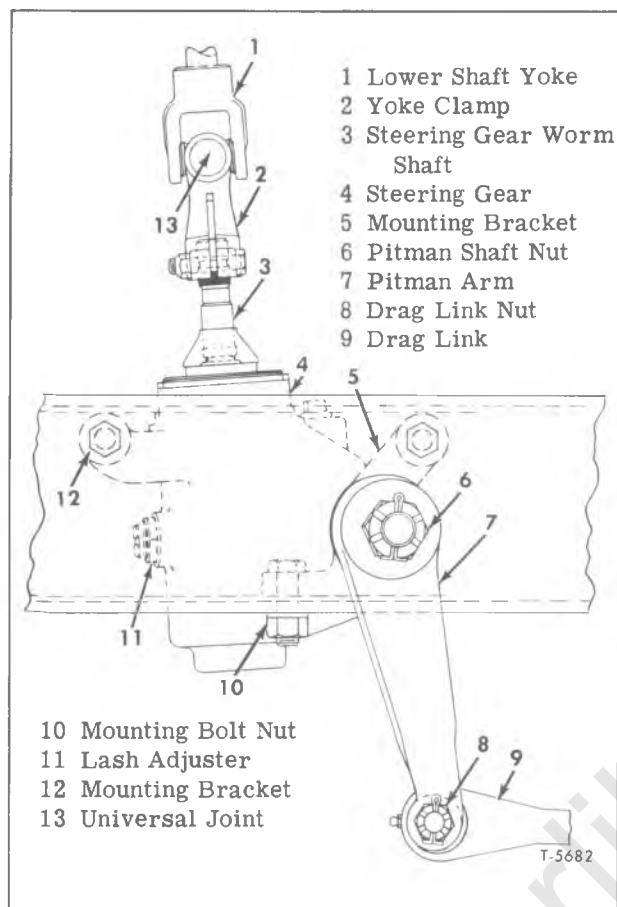

Figure 6—Steering Gear and Connections (Tilt Cab Model)
(Refer to Figures 6 and 8)
3. Remove bolt attaching lower or intermediate shaft clamp yoke or coupling to steering gear worm shaft (3) (fig. 6).
4. Remove pitman arm nut (6, fig. 6) and lock washer; then using puller (J-3186) remove pitman arm (7) (fig. 6).
5. Remove bolts, nuts, and washers which attach steering gear (4) to frame and remove steering gear.
(Refer to Fig. 6)